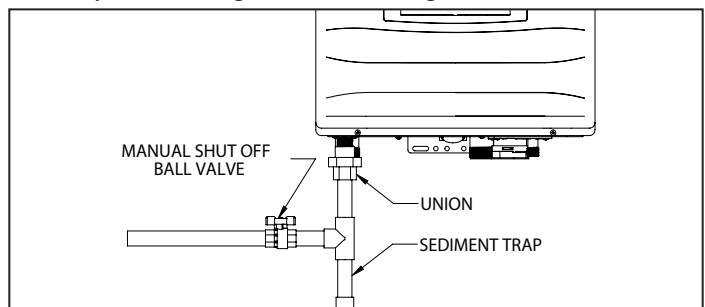

Figure 44 - Gas Line with Shut-Off and Sediment Trap Detail
- The National Fuel Gas Code (NFPA 54) requires that a sediment trap (drip leg) be installed in the gas line on appliances not so equipped. The drip leg must be accessible, a minimum of 3" in length, and not subject to freezing conditions. See Figure 44.
- A manual gas shut-off valve should be installed in the gas supply line close to the water heater. See Figure 44 for detail.